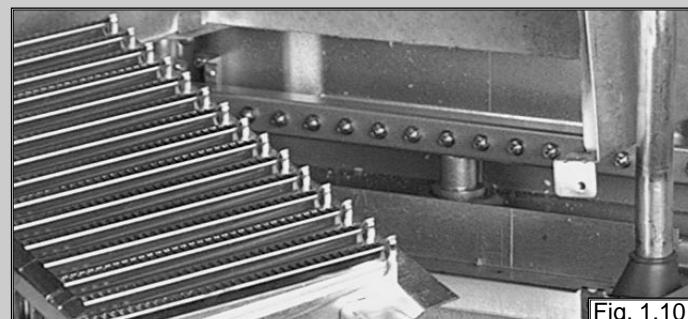

Fig. 1.10
3. Remove the burner (see fig. 1.10);